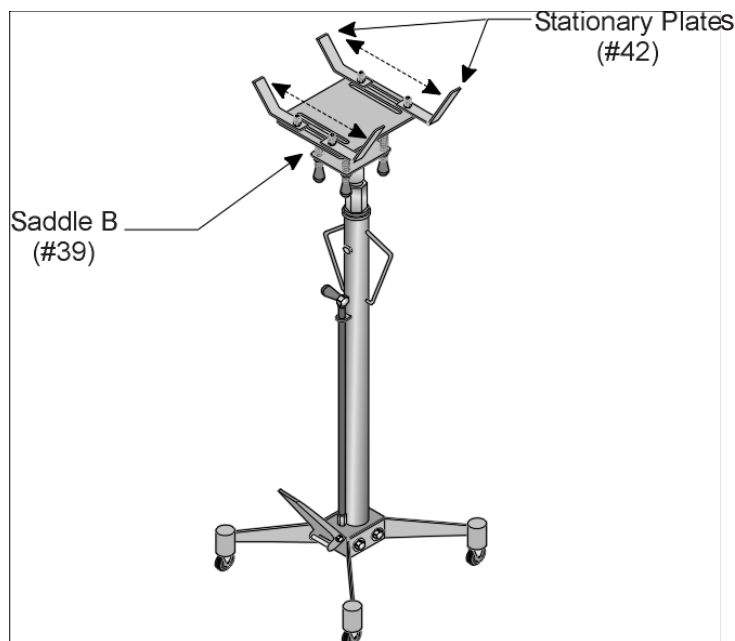

Figure 8--Placing the Stationary Plates
Step 4: When the vehicle is safely raised, maneuver the Transmission Jack underneath the vehicle. You will want to position the Transmission Jack so that the pairs of STATIONARY PLATES (#42) will hold the forward and rearward ends of the transmission, respectively, as shown in Figure 8.